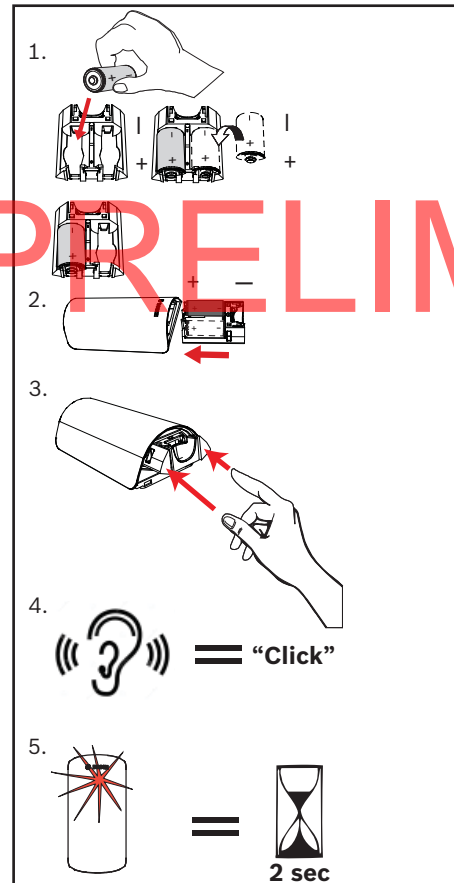

Figure 6.1: Battery insertion
1. Slide the battery tray into the detector body using two fingers with the finger cavity facing out. Be certain to slide the tray in until the top of the tray is flush with the top of the detector body and you feel it “click” into position. The LED stays lit for 2 seconds immediately after the battery “clicks” into place. Refer to battery insertion sequence in *Figure 6.1*.